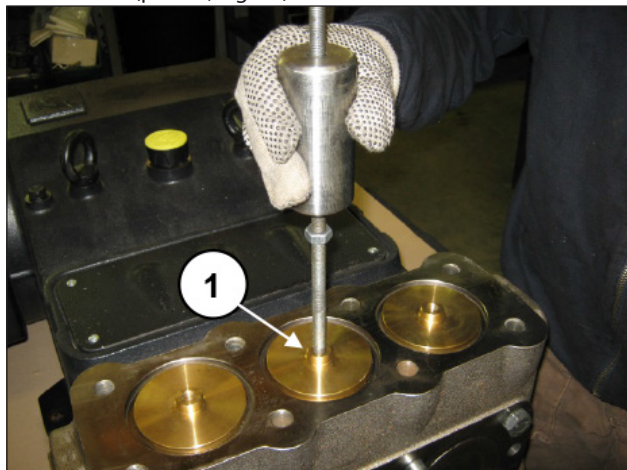

Fig. 90
- B) Remove the valve plugs by means of an M10 extractor hammer (pos. ①, Fig. 90).